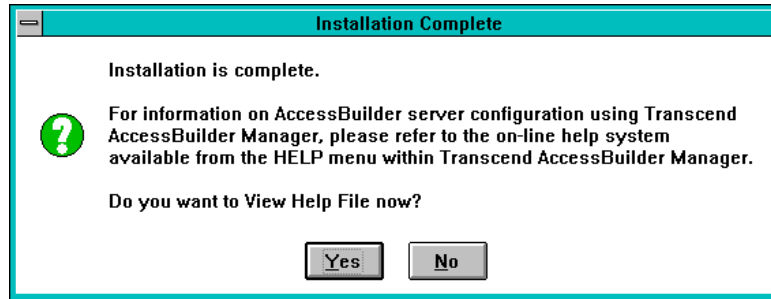

Figure 3-7 Installation Complete Dialog Box
- 12 After the application files are copied to your hard disk, the Installation Complete dialog box is displayed (Figure 3-7):